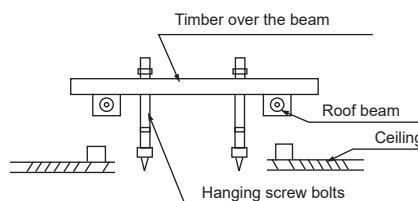

Fig.5-3
- Please Refer to Fig.5-3 and Fig.5-4 for the hanging screw bolts distance